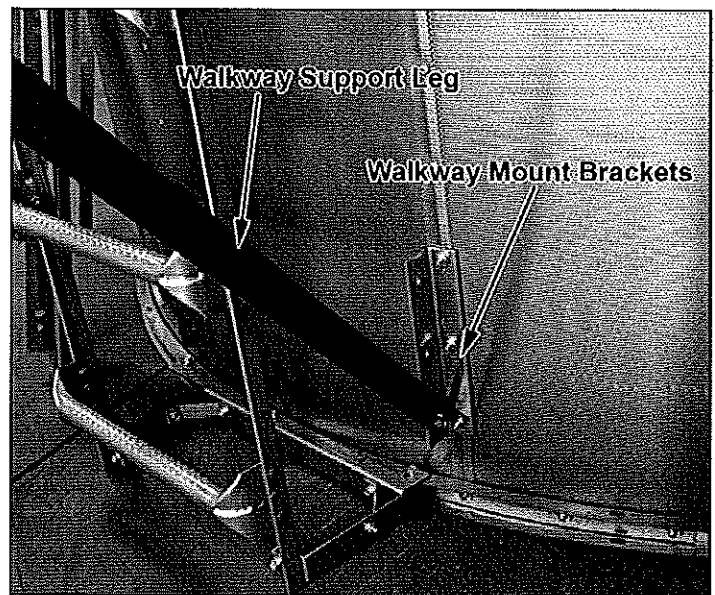

Figure 12
- Bolt the top of the (9) walkway support legs to the second bottom hole from the front edge of the walkway plank supports and the bottom hole of the legs to the bottom hole of the bottom walkway mounting brackets. See Figure 12.